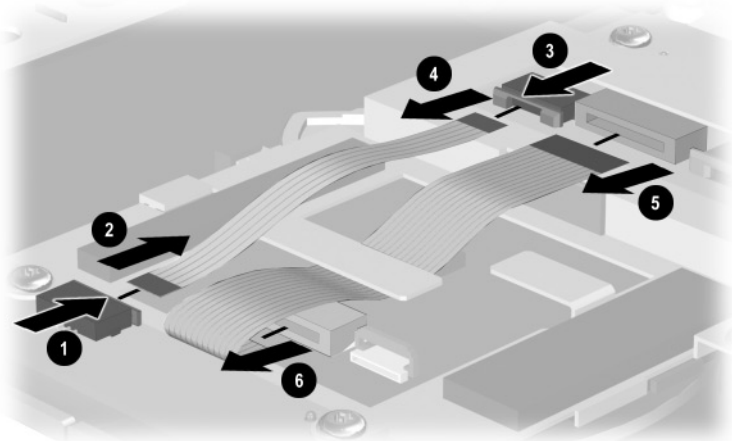

Figure 5-34. Disconnecting the TouchPad-to-TouchButton Board and TouchButton Board-to-Pointing Stick Board Cables
9. Release the ZIF connector **1** on the pointing stick board to which the TouchButton board-to-pointing stick board cable is attached and disconnect the cable **2** (Figure 5-34).